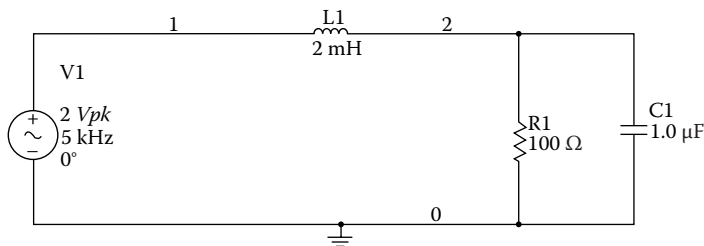

FIGURE P4.8
Problem 4.8 (1) For the circuit shown in Figure P4.8, find the complex power supplied by the source. (2) If a $1.0\ \mu\text{F}$ capacitor is disconnected across the $100\ \Omega$ resistor, what is the complex power supplied by the source? (3) Compare the power factor of part (1) to that of part (2).